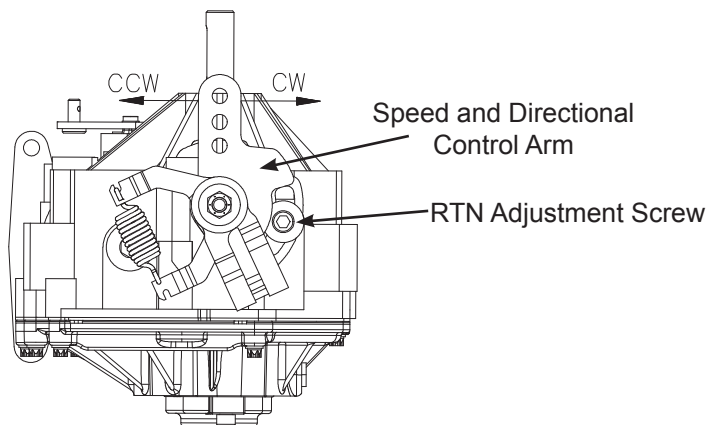

Figure 6. Return to Neutral Setting
2. Remove the Original Equipment Manufacturer's (OEM's) control linkage at the control arm. Refer to Figure 6.
5. Stop the vehicle's engine. Reattach and adjust the OEM linkage according to Step 3 and Step 4. Stop the vehicle engine. Refer to Figure 6.
6. Note the axle directional movement. Stop the vehicle engine. Loosen the RTN adjustment screw until the control arm can be rotated. Rotate the control arm in the opposite direction of the wheel rotation in 5 degree increments. Tighten the RTN adjustment screw. Refer to Table 8, Required Torque Values, page 15. Recheck according to steps 3 and 4. Stop the vehicle engine. Reattach and adjust the OEM linkage according to the OEM manual. Recheck according to steps 3 and 4. Refer to Figure 6.